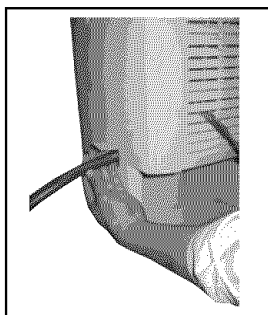

fig.2
- d. Insert the female threaded end of the hose through the opening. (fig.2)